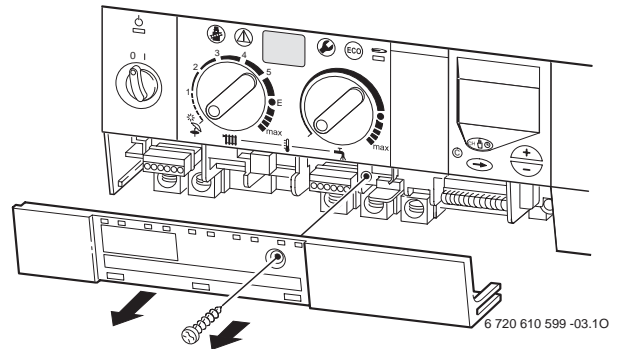

Fig. 24
- ▶ Remove screw and slide terminal cover forwards to remove. Refer to fig. 24.